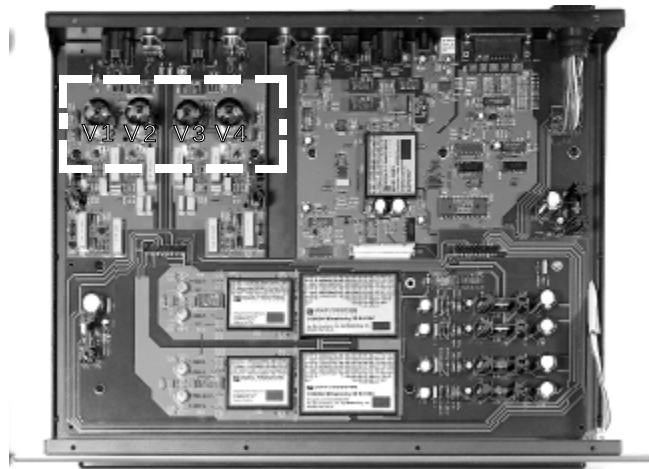

Figure 4 · Processor 3 tube installation locations.
4. Now examine the printed circuit board (PCB) above the tube sockets in the Processor 3 for the designations matching the designations on the tubes (See Figure 4 for further clarification).